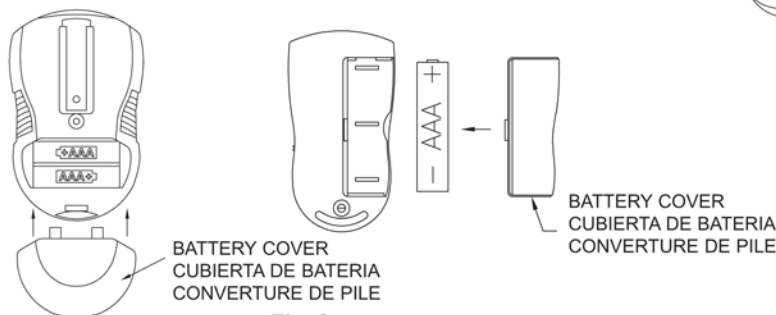

Fig. 2
Step 5-1 Battery replacement **Fig. 2**